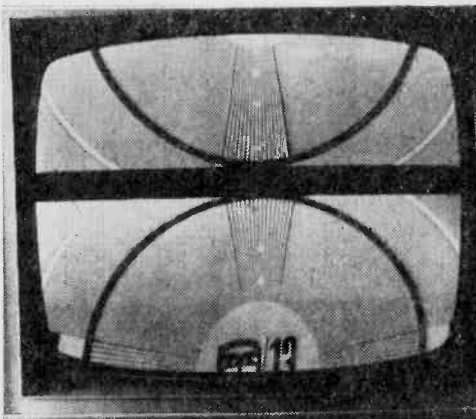

Fig. 1. Even if picture isn't rolling as above, vertical hold control may not be set properly.
**Vertical Hold.** If the picture's not rolling, you say, that's proof the vertical hold control is properly adjusted (see Fig. 1). Sorry about that. Even if Flipper seems as stable as a snoozing Moby Dick, the control may not be perfectly adjusted. Thing is, TV pictures operate on *interlaced scanning*. It means the picture beam swings down and illuminates the screen on every other line (1, 3, 5, etc.). Then it repeats the scan for the missing (2, 4, 6) lines. This is a crafty trick to reduce flicker in the picture. But to do the job well, the set's vertical oscillator must perfectly lock to the station's sync signals. And that's where tuning technique can make or break it.